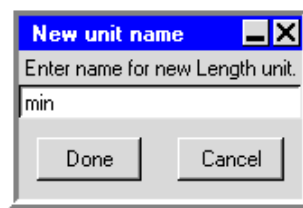

Figure 5.4.2: The New unit name Panel
2. Click the **New unit** button to open the **New unit name** panel (Figure 5.4.2).